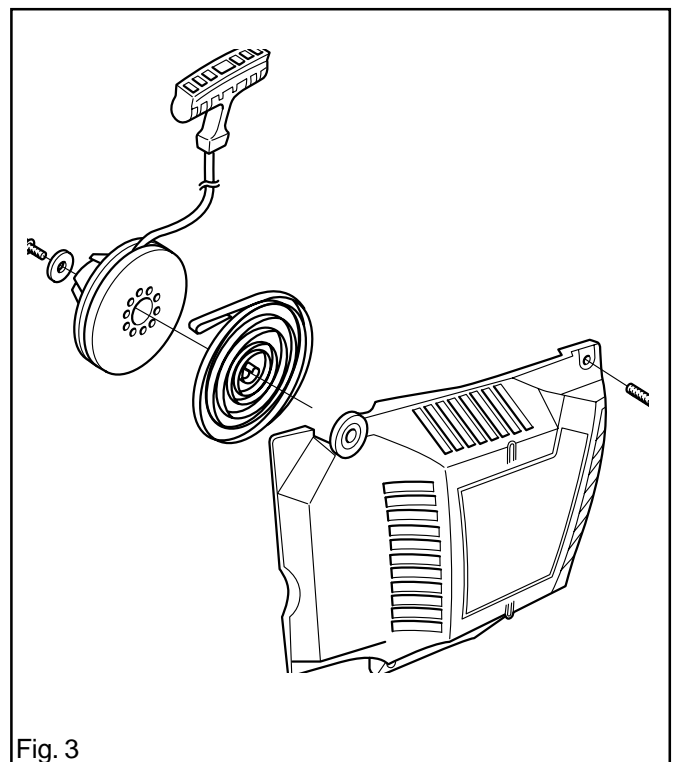

Fig. 3
4. Remove the central bolt and take out the washer and starter pulley. See fig. 3.
5. Fit the washer and bolt. See fig. 3. Tighten the bolt to 4 Nm.
See fig. 3.